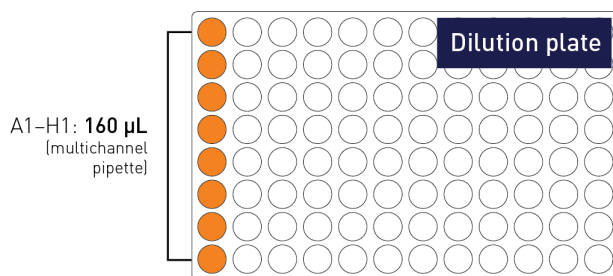

Figure 1 Dispense CHO HCP ProteinSEQ™ diluent (shown in plate format)
2. Dispense 160 µL CHO HCP ProteinSEQ™ Diluent to each of the eight tubes or plate wells (see Figure 1 on page 10).